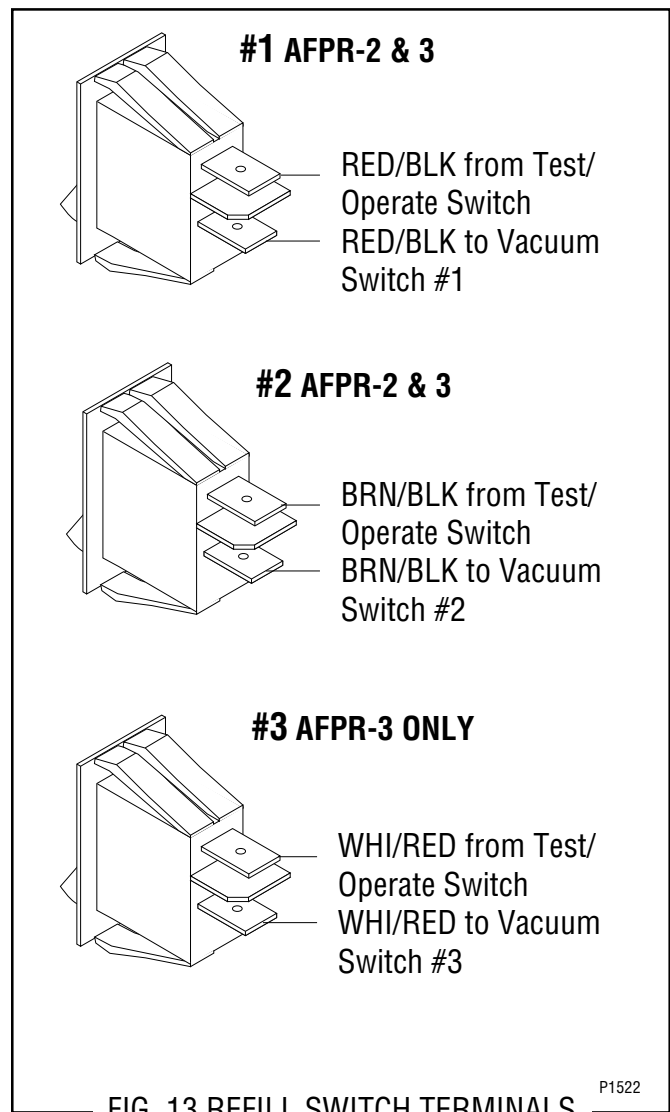

FIG. 13 REFILL SWITCH TERMINALS
4. Refer to Fig 13 when reconnecting the wires.